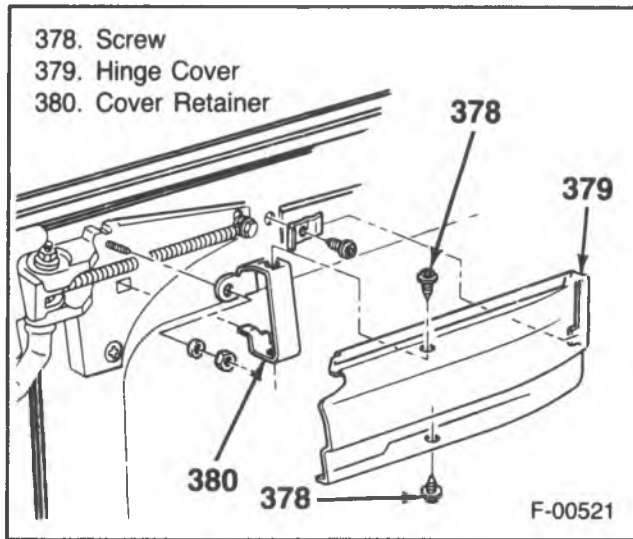

Figure 91 — Upper Hinge Cover
- 1. Hinge cover (figure 91).
- 7. Hinge cover (figure 91).